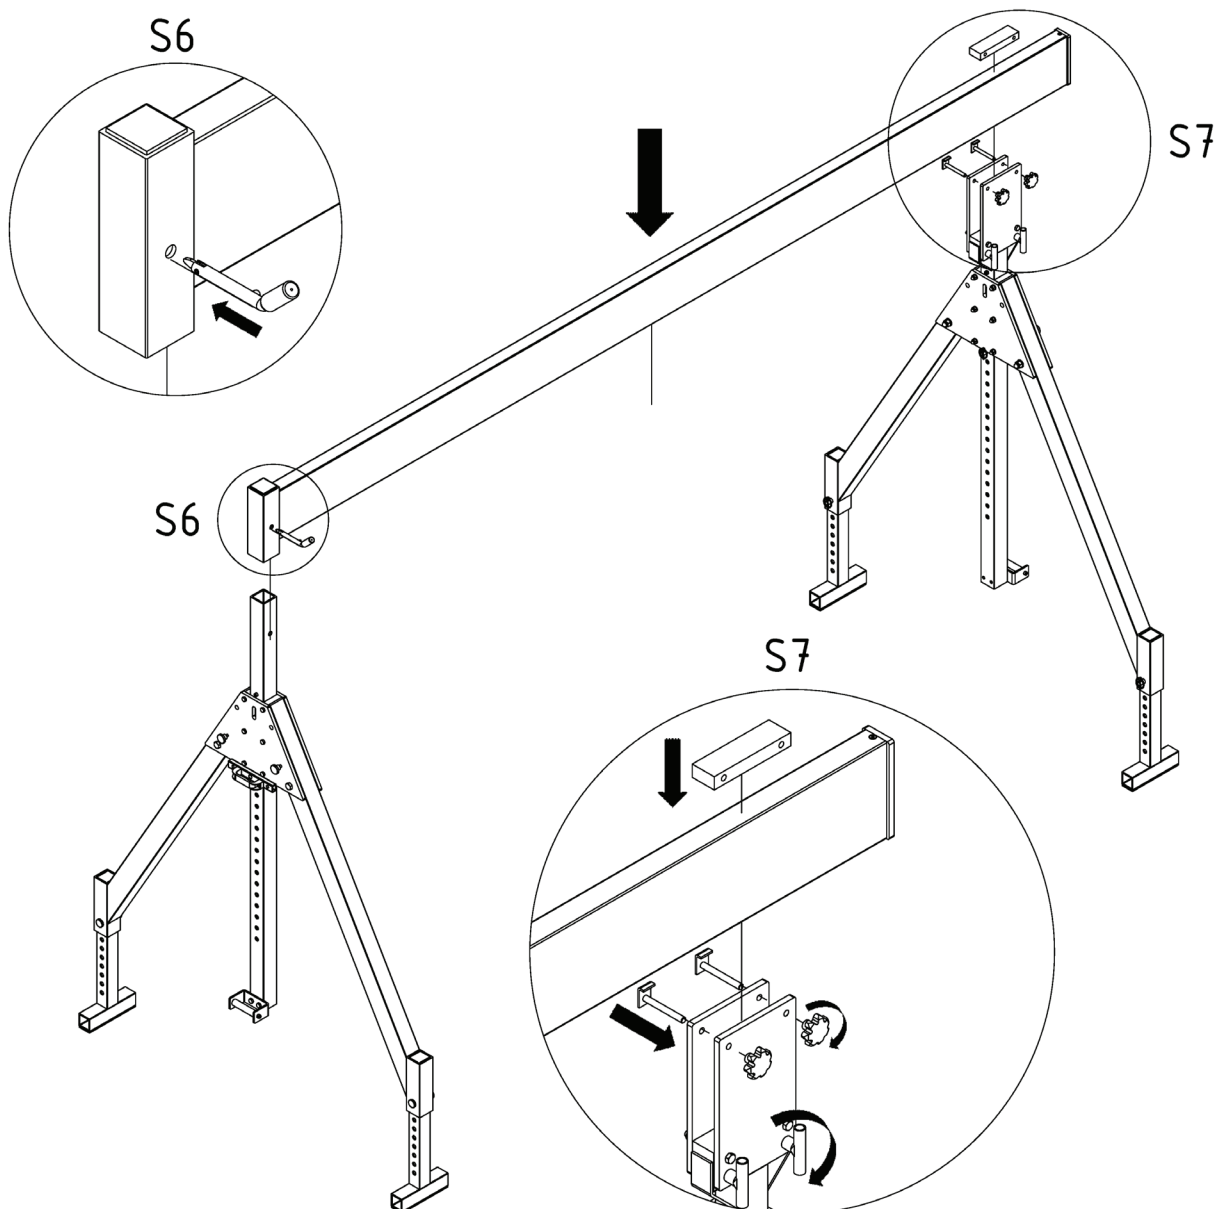

Fig. 3
- 7.3 Now place the aluminium carrier on the Side frames as shown in fig. 3. Ensure the sleeve reception, which is welded to one end of the aluminium carrier, is fitted on to the Side frame carrier support with plug-in support. The other side of the aluminium carrier is inserted into the horizontal adjuster on the carrier support of the opposite Side frame.
- 7.4 Insert the carrier safety bolt through the hole in the sleeve reception of the aluminium carrier, as shown in fig. 3. Now place spacer plate 2 onto the carrier and re-insert clamping screws 1. Screw on the star knob nuts and retighten clamping screws 2 to clamp the aluminium carrier in this position.